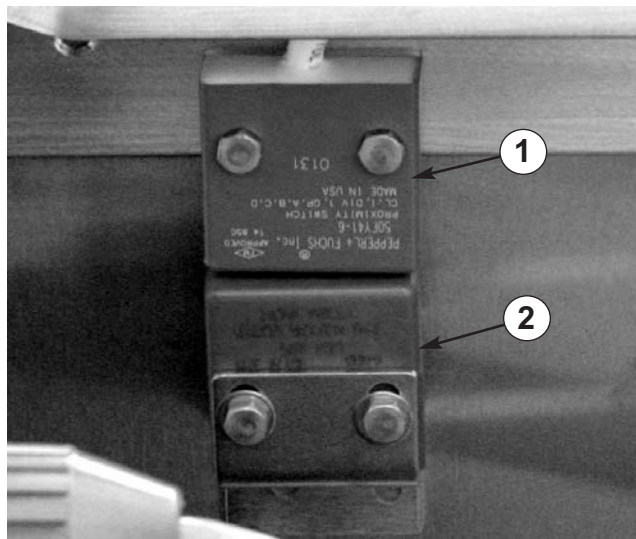

Figure 47 — Safety switch sensors and actuators must be aligned and within 1/16" (1.6 mm).
**Safety switches:** Terminals should be tight and free from corrosion. Recommended torque is 5 inch pounds or 0.56 newton-meters. Check sensors, actuators and cords for damage. *Switches should be replaced if any defect or damage is detected.* Check switch alignment. Actuator must be aligned and within 1/16" (1.6 mm) of sensor to complete safety switch circuit (Figure 47).